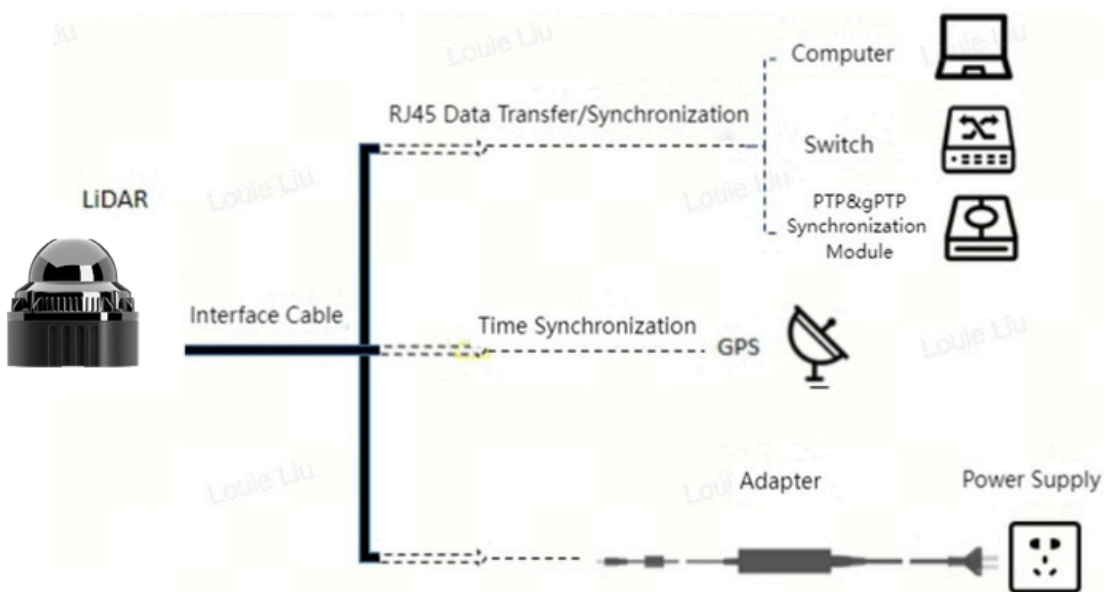

Figure 8 Interface Cable Connection Diagram
The connection method is shown in Figure 8.
- 1) The timesynchronization module (PTP & gPTP, GPSTimesynchronization module) is not included as a standard product. If you need to use these features, please purchase them separately and follow the connection method shown in Figure 8;